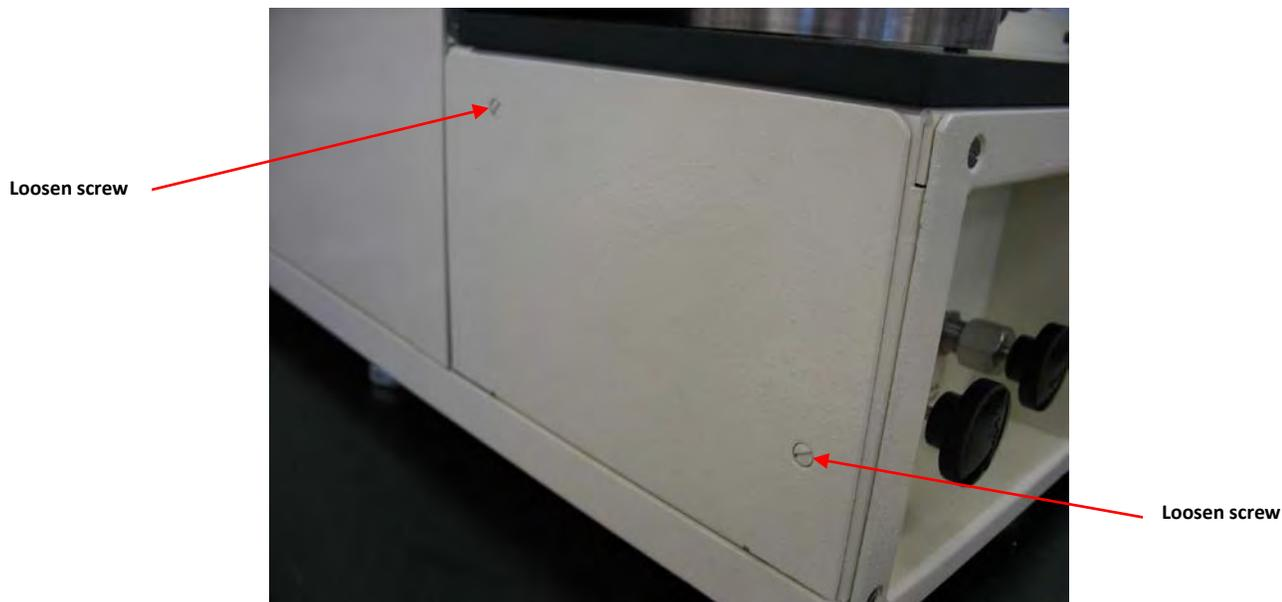

Figure H3 – Side cover removal
1. Remove small side cover on left side of the machine by loosening 2 screws (figure H3).